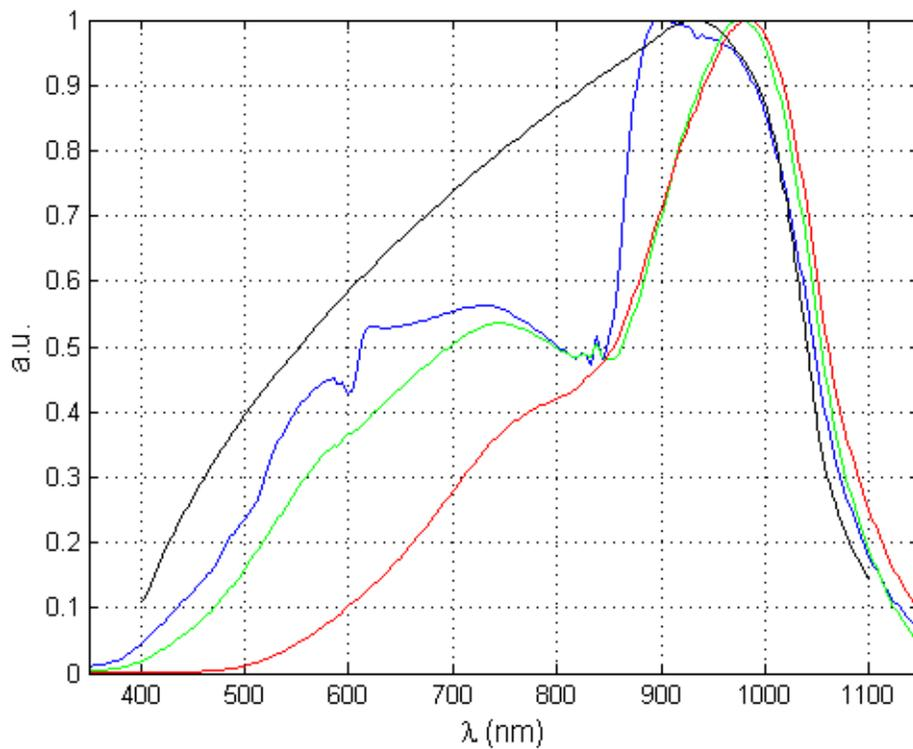
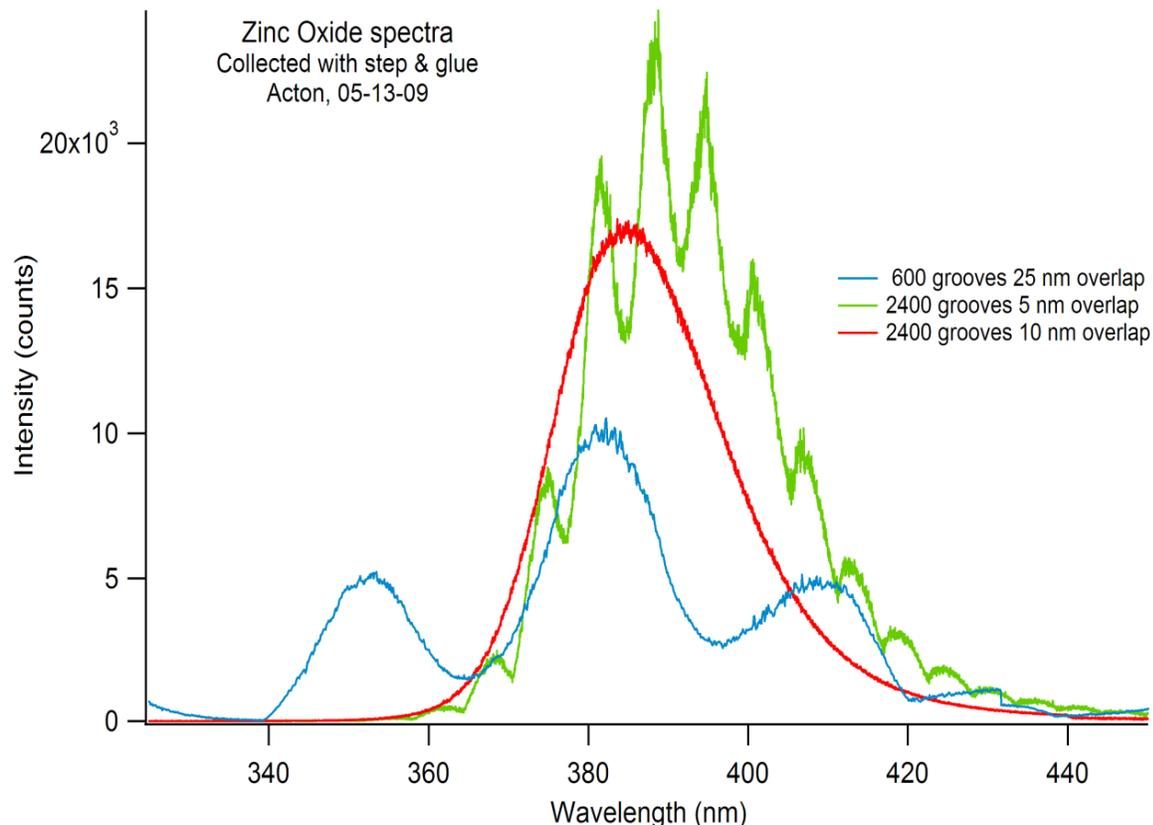

Figure 9. Blackbody spectra acquired with different diffraction gratings. The black trace shows the true spectrum; colored traces are from actual measurements.
Figure 10. Spurious peaks in a step-and-groove spectrum (green and blue traces). The true spectrum is in red.
A. Gratings also modify the measured spectrum with their own diffraction efficiency curves. These curves often show sharp features, like Woods' anomalies, that are difficult to correct for (see Figure 9). In addition, using gratings in conjunction with an array detector like a CCD camera creates a more subtle problem. Acquiring a spectrum with both high resolution and broad spectral range requires the use of a grating with high groove density and rotating it stepwise over the desired range, acquiring a spectrum at each step. The individual spectra are then glued together. At each step, however, there is a finite change in diffraction efficiency, manifested by a sharp change in the slope of a broadband spectral feature. In many cases, this step-and-glue procedure can even create spurious spectral peaks (Figure 10).